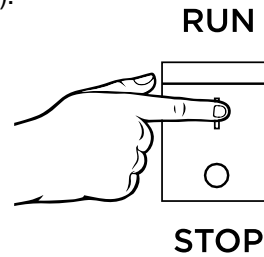

Figure 9 - Engine Control Switch - RUN
6. Push the engine control switch into the **RUN** position (see Figure 9).
9. Push the engine control switch into the **RUN** position (see Figure 9).
10. Push and hold the push button start for 1 second, then release. If using remote start then hold down **START** on the remote key fob until the generator starts, then release (see Figure 9).